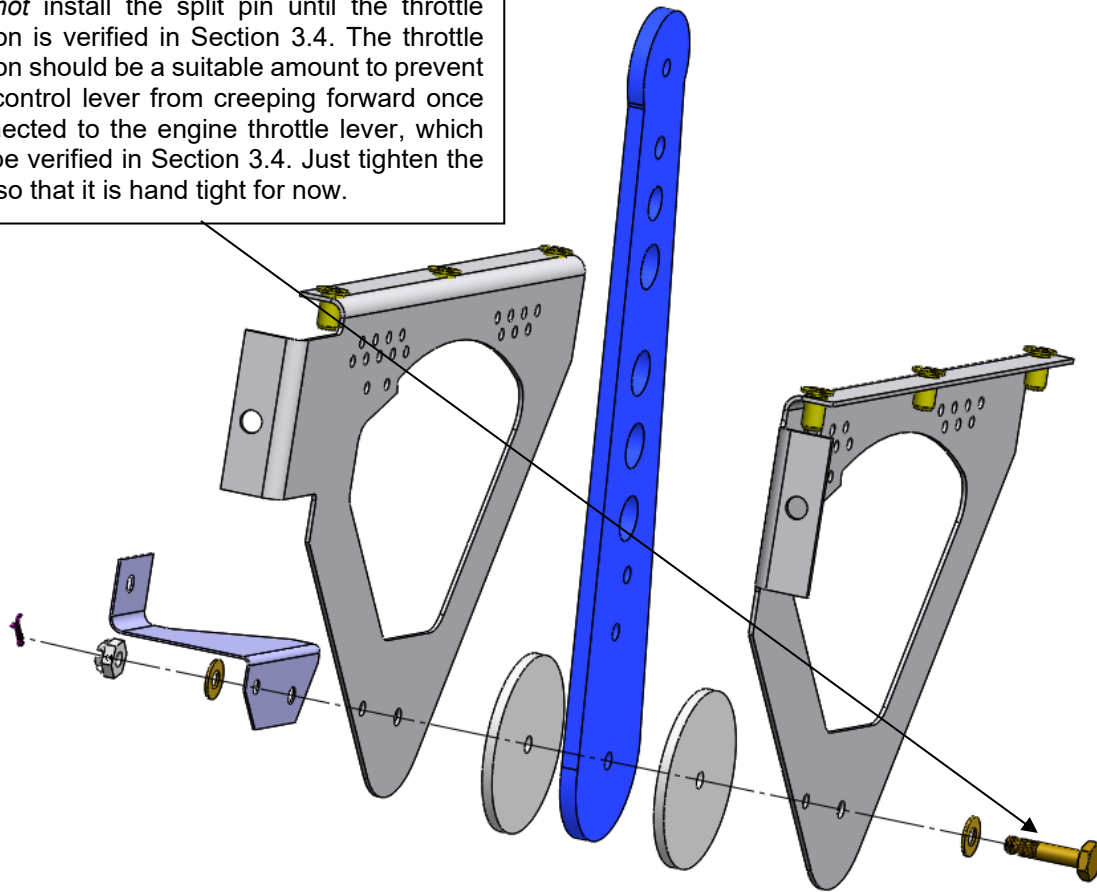

Figure 23
Step 4: Reinstall the throttle lever assembly and outer bracket, refer to Figure 23 for how the components go back together.